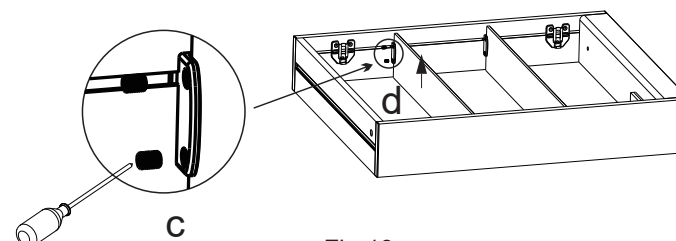

Fig.13
4.2.Remove 4pcs screws (c) from the shelf brackets and remove the shelf glass (d),Fig.13